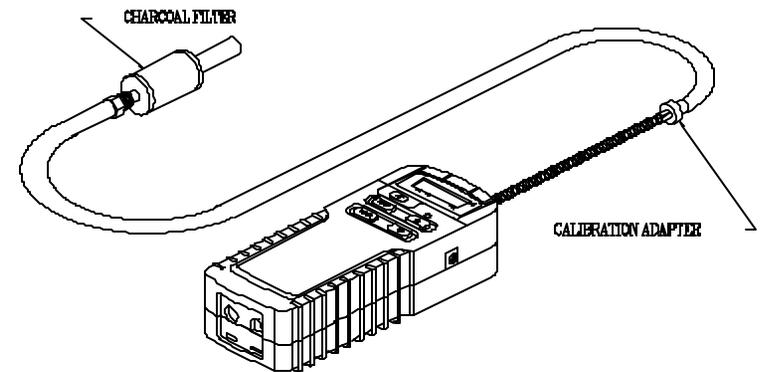

Figure 4.1 Zero gas calibration setup
The organic vapor zeroing kit, see Figure 4.1, is supplied to perform zero gas calibration. This kit consists of
2. Insert the zero gas adapter into the gas inlet tube of the Personal PID Unit, as shown in Fig. 4.1.